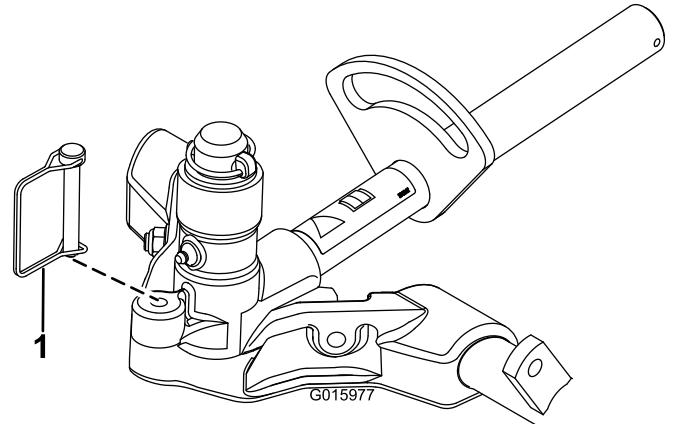

Figure 15
11. To lock (fix) the steering on the cutting units, secure the pivot yoke to the carrier frame with the snapper pin (Figure 15).